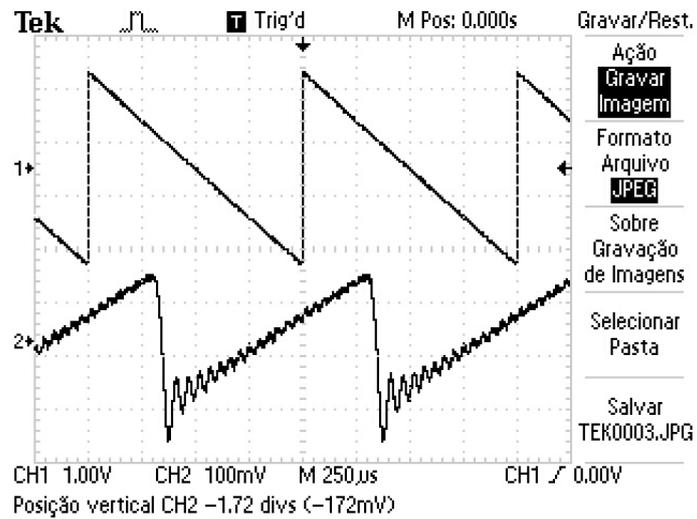

Figure 7: Oscilloscope view of the function generator sawtooth wave and analog output of the STM32F746G.
**Question 8:** repeat again the previous experiments (questions 6 or 7) this time with a sawtooth wave that is obtained by setting the duty cycle of a triangular wave close to 0%. You should obtain a figure similar to that represented in Figure 7. Now, increase the frequency of the sawtooth wave, in steps of 1 kHz, until the STM32F746G output wave looks like a perfect sinusoid. Is the frequency